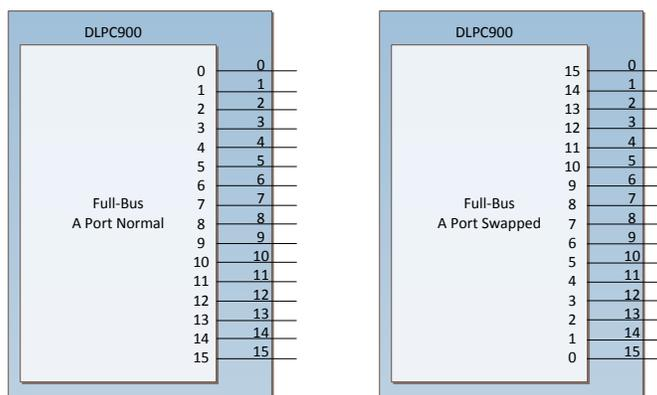

Figure 18. Controller to DMD Full-Bus Connections
- (4) The DLPC900 is a Full-Bus DMD signaling interface. Figure 18 shows the controller connections for this configuration.
- (5) The pulse duration minimum for any clock rate can be calculated using the following formulas.
Figure 18 shows the controller connections for full-bus normal or swapped. Refer to the *DLPC900 Programmer's Guide (DLPU018)* for details on how to select the bus swap settings to match the board layout connections.